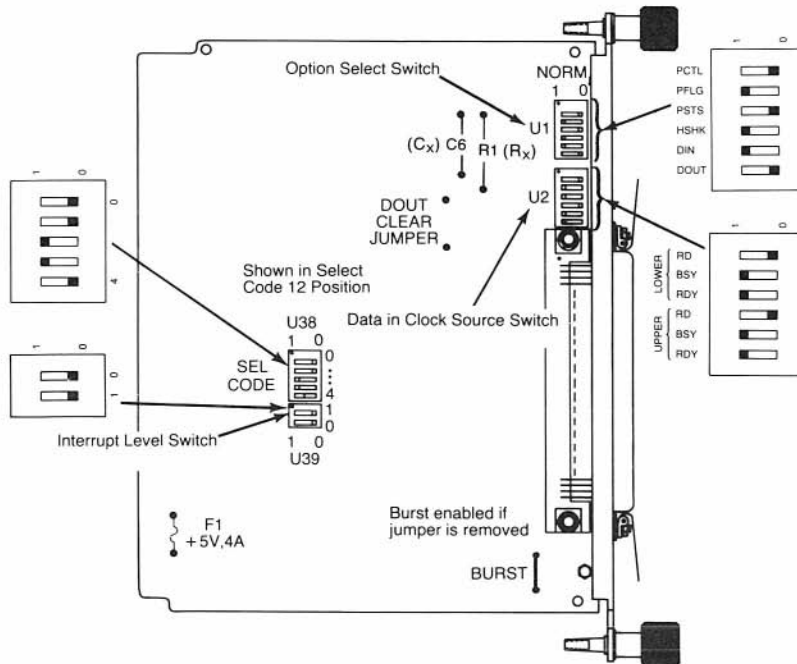

Figure 5-5. HP 98622A GPIO Switches and Jumpers
- Find the set of five switches labeled U38 on the GPIO Interface (see Figure 5-5). This group of switches determines the select code.
- Set Interrupt Level switch, labeled U39 on the card, to interrupt level 3 (00) as shown in Figure 5-5 (interrupt level 3 is required for HP-UX). If your application requires a different setting, refer to the following table.
- b. Set the Data-in Clock Source switches (labeled U2). If connecting an HP 9884A Paper Tape Punch to this interface, set these switches as shown in Figure 5-5.